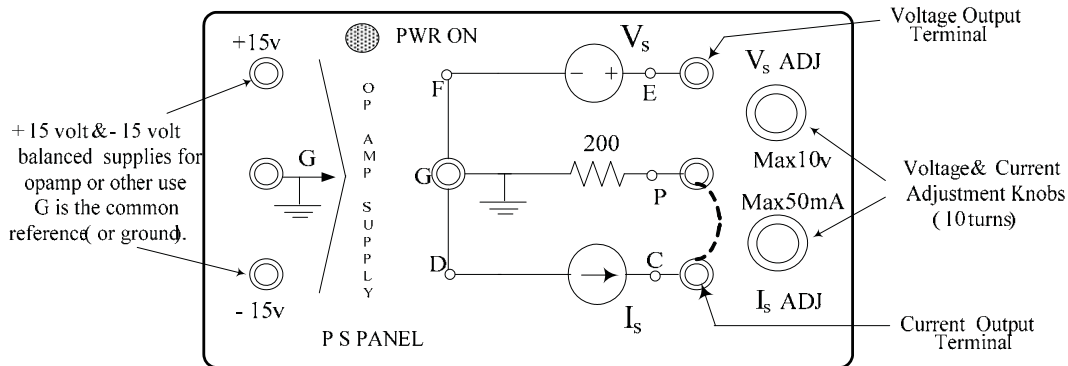

Figure 1.5: Front view of the PSP
**DC Voltage & Current Supplies: The Power Supply Panel (PSP)** provides DC source voltages and currents needed in the experiments. It is located on top of the lab station hutch at its centre. The PSP is energized by turning on a master power supply (the black-coloured unit located on the centre pillar of the hutch) and it is active when the green PWR ON indicator light is glowing. The front panel of the PSP is shown sketched in Figure 1.5 and a photograph of it is seen in Figure 1.6. The PSP provides a 1.1 volt -to-10 volt continuously variable voltage source and a 5.6-to-50 mA continuously variable current source, each varied by means of a 10-turn control knob.
The variable current source may be converted into an additional variable voltage source, if necessary, by bridging terminals P and C (shown as a dotted line between P & C in Figures 1.5 & 1.6) using a short patch cord. The PSP also provides 'balanced' +15v / 0 / -15v power supplies required in experiments involving Operational Amplifiers. All the PSP outputs are referenced to the (black) ground terminals labelled G (for Ground)